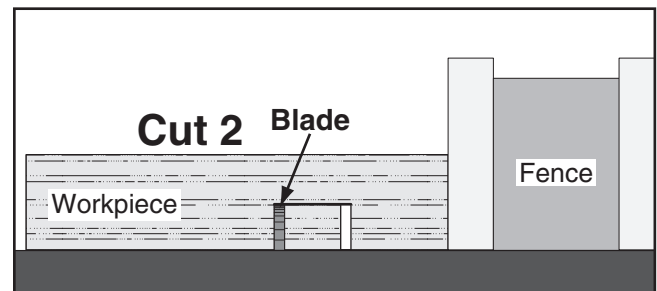

Figure 98. Second cut for a single blade dado.
8. Repeat the cutting operation on the other side of the dado channel, as shown in **Figure 98**.